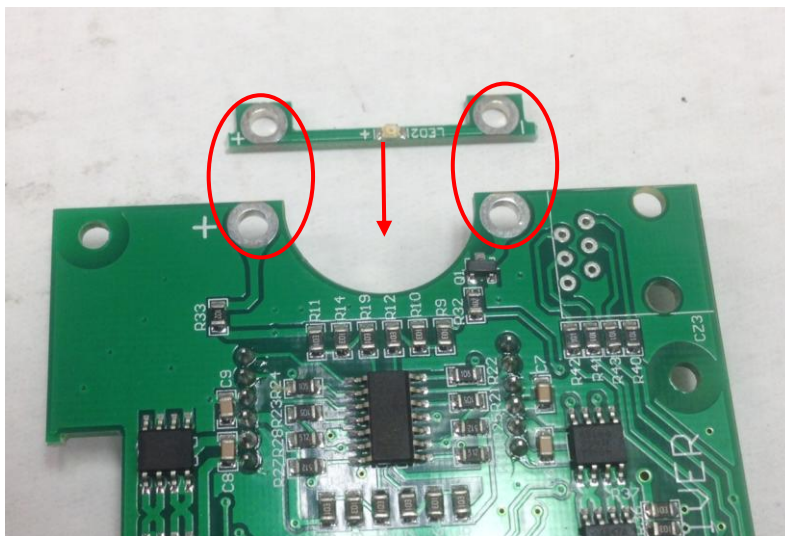

Figure 7. Align LED to the main board
4. Remove the main control board from the face plate. Align the illumination LED to the top edge of the board, make sure plus (+) and minus (-) electrodes of the LED are aligned to the + and - signs on the board, as shown in Figure 7.